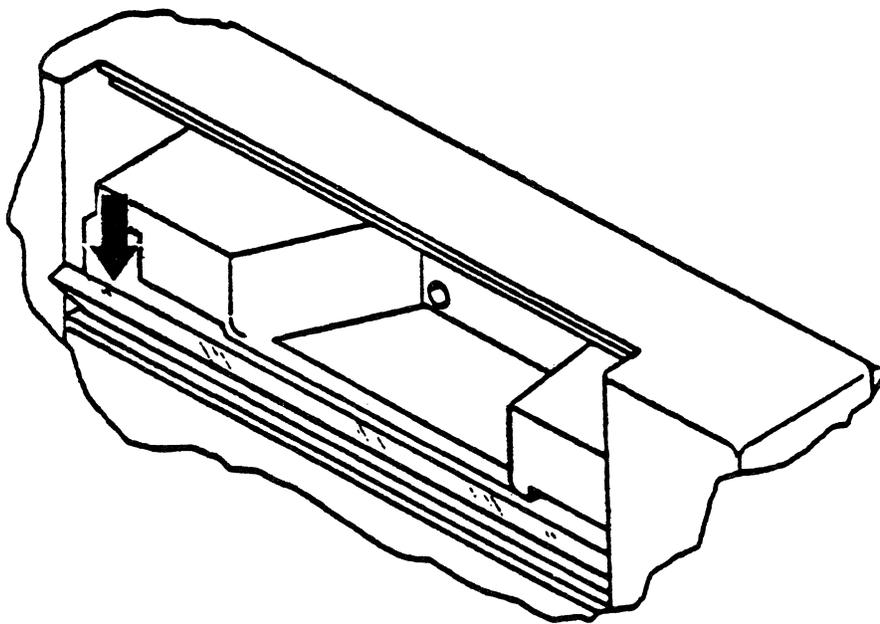

Figure 3-1 Opening the Front Door Panel
2. Open the front door panel by gently pressing down on the top center of the door. (See Figure 3-1).
3. Open the front panel door (Figure 3-1) and lift the tape reel out of the tape transport.